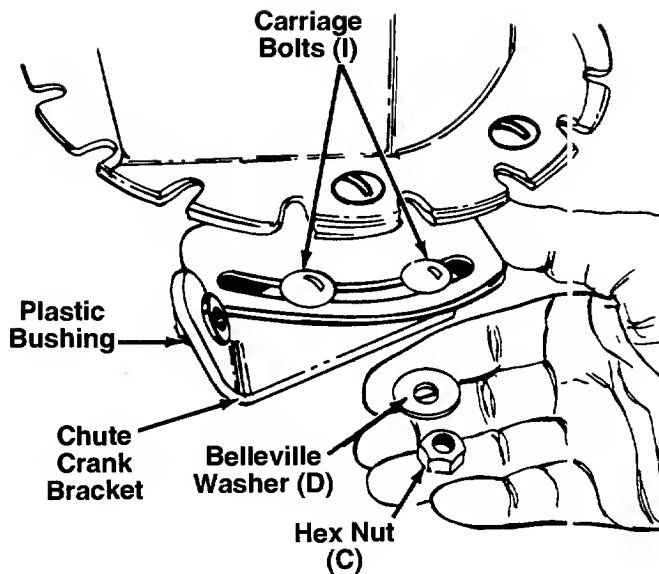

FIGURE 9.
12. Attach chute crank bracket to the extension on the left side of the chute opening (bracket goes beneath the extension) as shown in figure 9. Secure with carriage bolts (I), belleville washers (D) (cupped side of washers goes against the bracket) and hex nuts (C). Tighten finger tight only at this time.